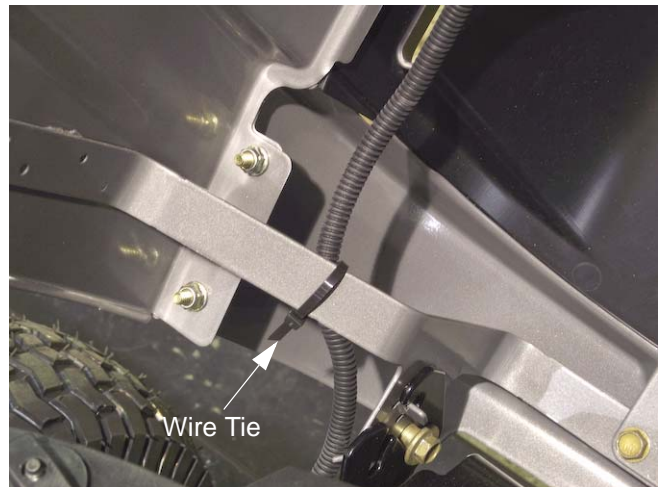

Figure 4.3
4. Cut the plastic wire tie that secures the headlight harness to the hood bracket. See Figure 4.3.